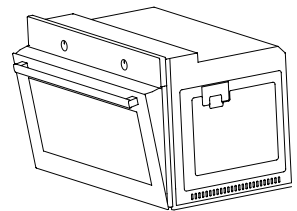

Figure 12
4. Locate the two mounting tabs on the heat shield into the two slots under the control panel, then secure in place between oven and inner door by gently closing the door. (figure 12)